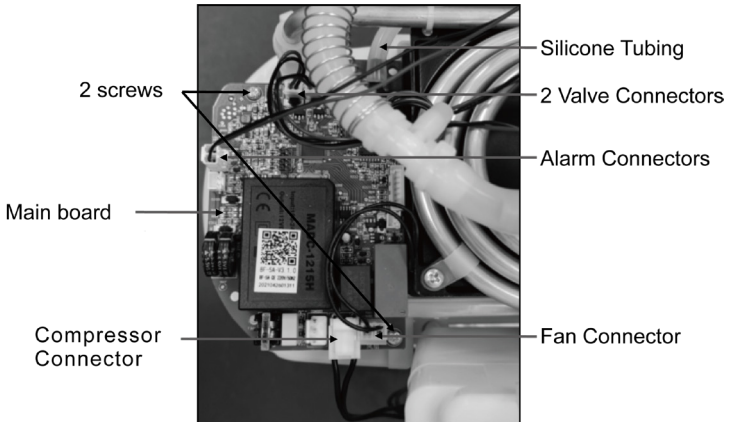

Figure 16
Compressor failure (E3)	Unplug the compressor plug-in (Figure 16) and start the oxygen concentrator. A few seconds later, the yellow light is on, alarm sounds, panel shows word "E3", and the device shutdown.
- ▶ Unscrew the screws in the main board. (Figure 16)
- ▶ Pull out silicone tubing and all connectors in the board then remove the main board. (Figure 16)